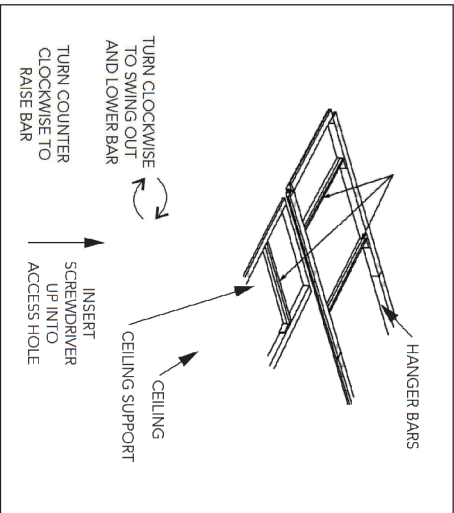

Figure 5
- Once the conduit is connected to the fixture, you can lift the fixture through the ceiling opening. The door of the fixture will need to be opened to gain access to the sway bracket adjustment screws. Turn these screws in a clockwise direction to swing the wing of the sway bracket out from the fixture as shown in Figure 5. When this has been done at all four of the sway brackets the fixture can support itself on the framing around the opening.
- Note: The circuit should be shut-off at the breaker before beginning this step. Fasten each flexible wire conduit to one of four 7/8" dia. plugged holes located in the center back of the fixture. This fixture has an IP65 rating and is UL Listed for wet locations. Use water tight connectors for all electrical connections to the fixture. The fixture door needs to be open to gain access to the plugged holes from the inside of the housing. Remove the center ballast cover. [1x4 fixtures have (4) sheet metal screws holding the ballast cover in place. 2x4 and 2x2 fixtures have (2) nuts.]